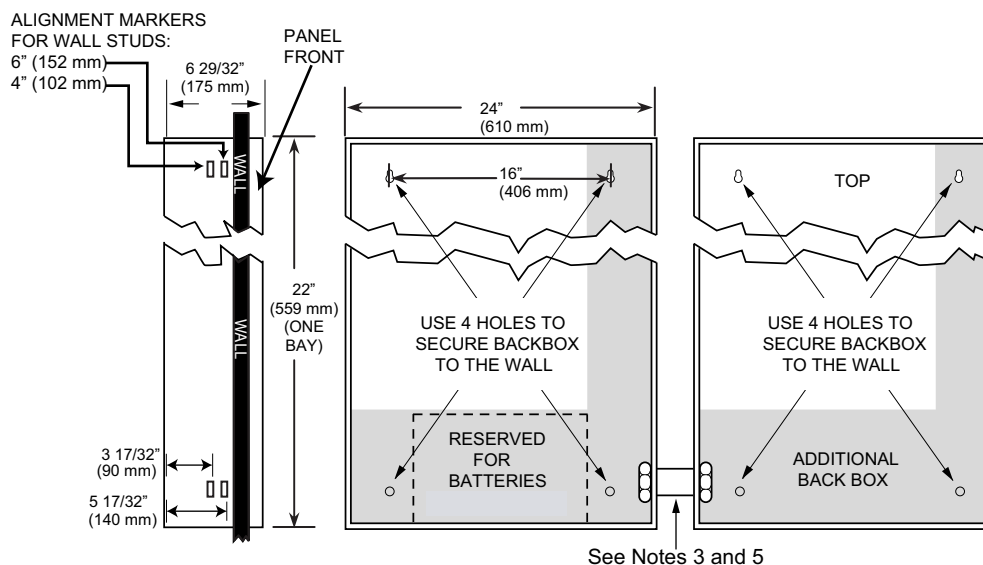

Figure 5-1. Back box installation
Install the back box as shown in Figure 5-1. Use the holes in the back box to secure it to the wall.
4. Do not install any power-limited wiring in the shaded area of the back box as shown in Figure 5-1. This area is reserved for non power-limited devices and circuits, for example, AC power, batteries, and city circuits. The non power-limited area is determined by the internal barriers, but is always below and to the right of these barriers.